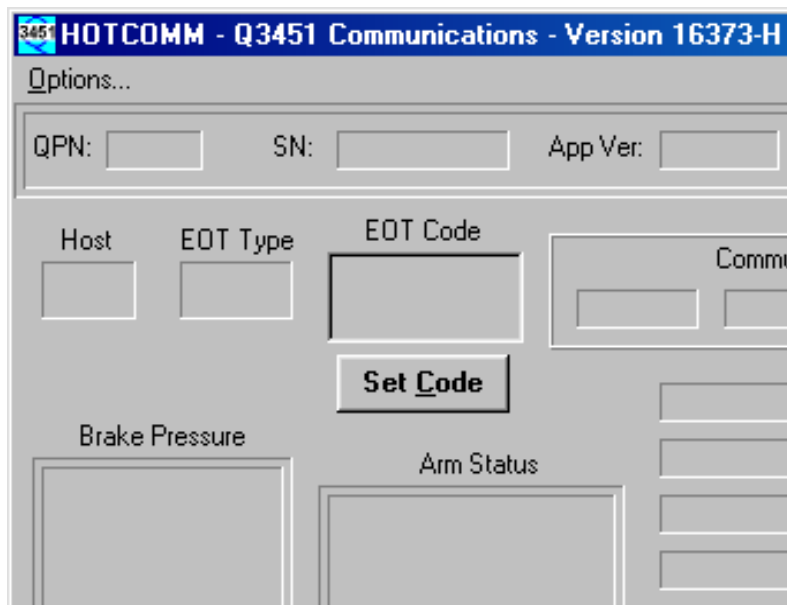

Figure 9 - HOTCOMM Screen
- Connect the test cable serial connector to the computer and start the HOTCOMM program. The HOTCOMM screen will be displayed as shown in Figure 9.